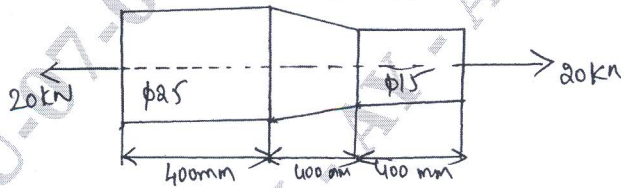

Fig.Q1(b)
- b. Find the extension of the bar shown in Fig.Q1(b) under axial load of 20 kN, $E = 200 \text{ GN/m}^2$. (10 Marks)